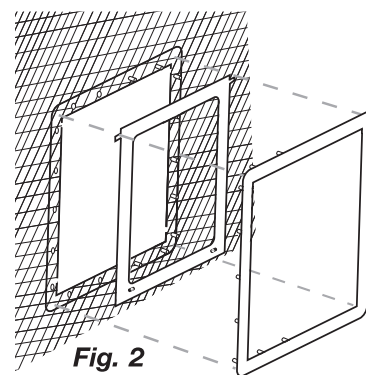

Fig. 2
Step 6 – Locate flap assembly in outside frame by aligning the hinge posts with the grooves in the outside frame. Mate two outside frames by aligning posts and cavities (see Fig. 2). When properly aligned the frames will hold the inside flap assembly in position. **Important: Do not cut the clear plastic on the inside flap assembly.**